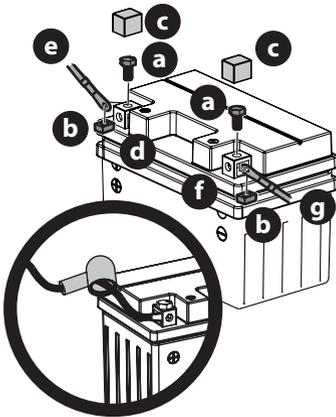

Figure 19
1. Remove the hex screws (a) and square nuts (b) located either on the end of the wiring harness or in the bag with this manual. Retain the hardware for later instructions (Figure 19).
2. Remove the plastic cover (c), if present, from the positive battery terminal (d) and attach the red cable (e) to the positive battery terminal (d) with one of the hex screws (a) and square nuts (b), from Step 1. Use a Phillips screwdriver (Figure 19).
3. Position the red rubber boot over the positive battery terminal to help protect it from corrosion (Figure 19 inset).
4. Remove the plastic cover (c), if present, from the negative battery terminal (f) and attach the black cable (g) to the negative battery terminal (f) with the remaining hex screw (a) and square nut (b) (Figure 19).